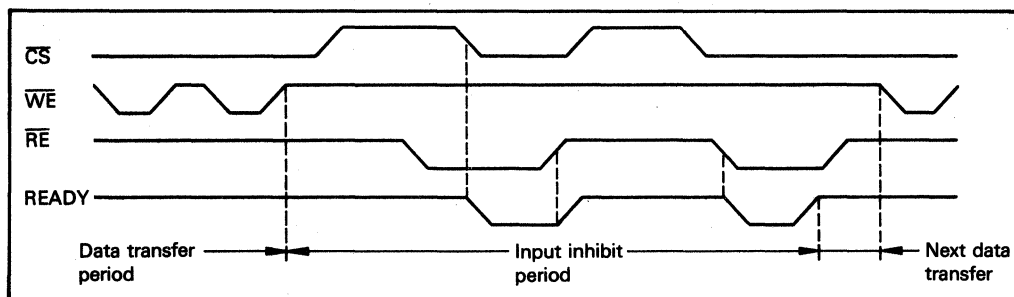

Figure 15 READY Output Timing (When It is Made Available by \overline{CS} and \overline{RE})
- READY is made available by \overline{CS} and \overline{RE} (figure 15).